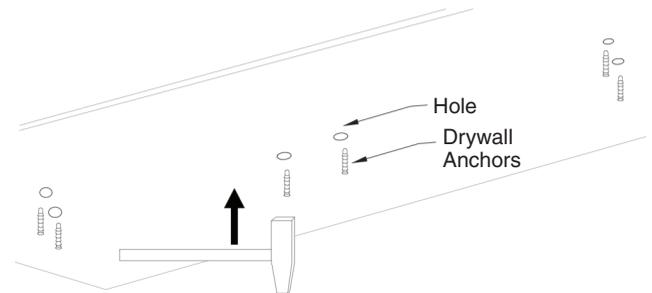

Fig. 2
2. Preparation for installation: As shown in **Fig. 2**, Fix the drywall anchors (C) into the hole on the ceiling.